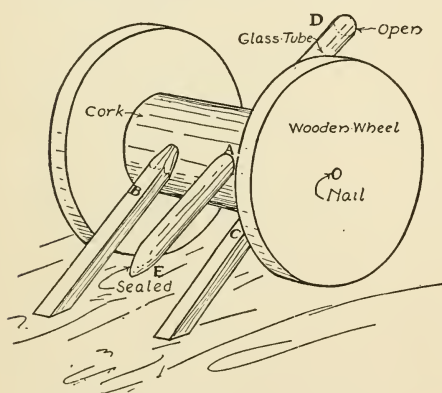

FIG. 294. — Another Toy Cannon.
**Another Toy Cannon** that is simple to make is shown in Fig. 294. For this, buy a short piece of glass tubing at
a drug-store and have the druggist seal one end of it. Then secure a good-sized cork and cut a hole through the side large enough for the tube to run through (see *A* in Fig. 294). Cut out a pair of wooden wheels about three inches in diameter, and fasten them to the ends of the cork with a pin or small nail. Make the cannon shafts four inches long, point one end of each and stick